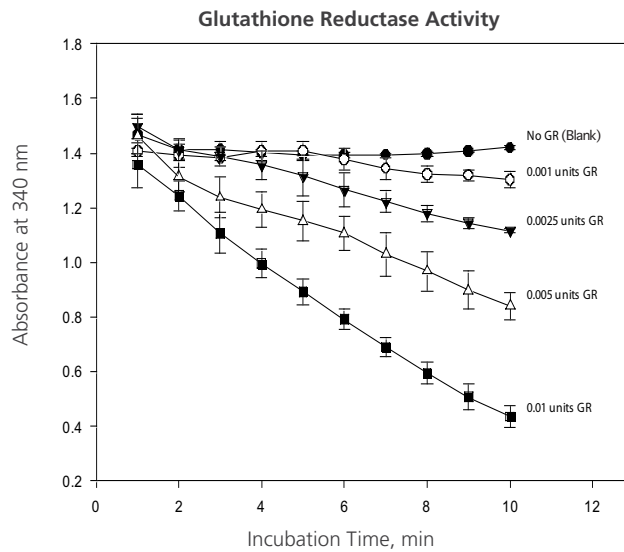

Figure 2: Change in absorbance at 340 nm with time for selected concentrations of the GR standard.
1. Plot the mean of the triplicate absorbance values at 340 nm versus time of the GR standard (Figure 2):
4. Plot the absorbance values of samples versus time as shown in Figure 2. Take the slope of the linear portion of the curves.